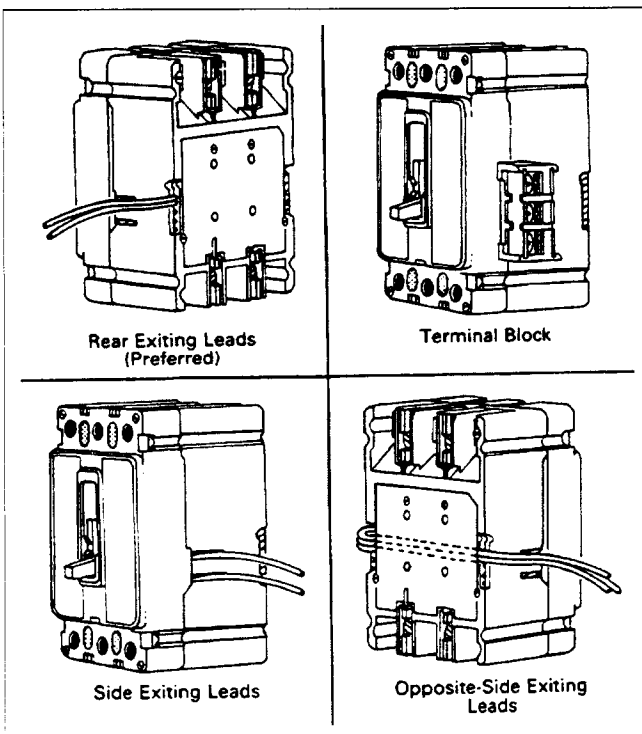

Fig. 2-2. Accessory Wiring Options
- 2-5. Route wiring to meet installation requirements (see Fig. 2-2).